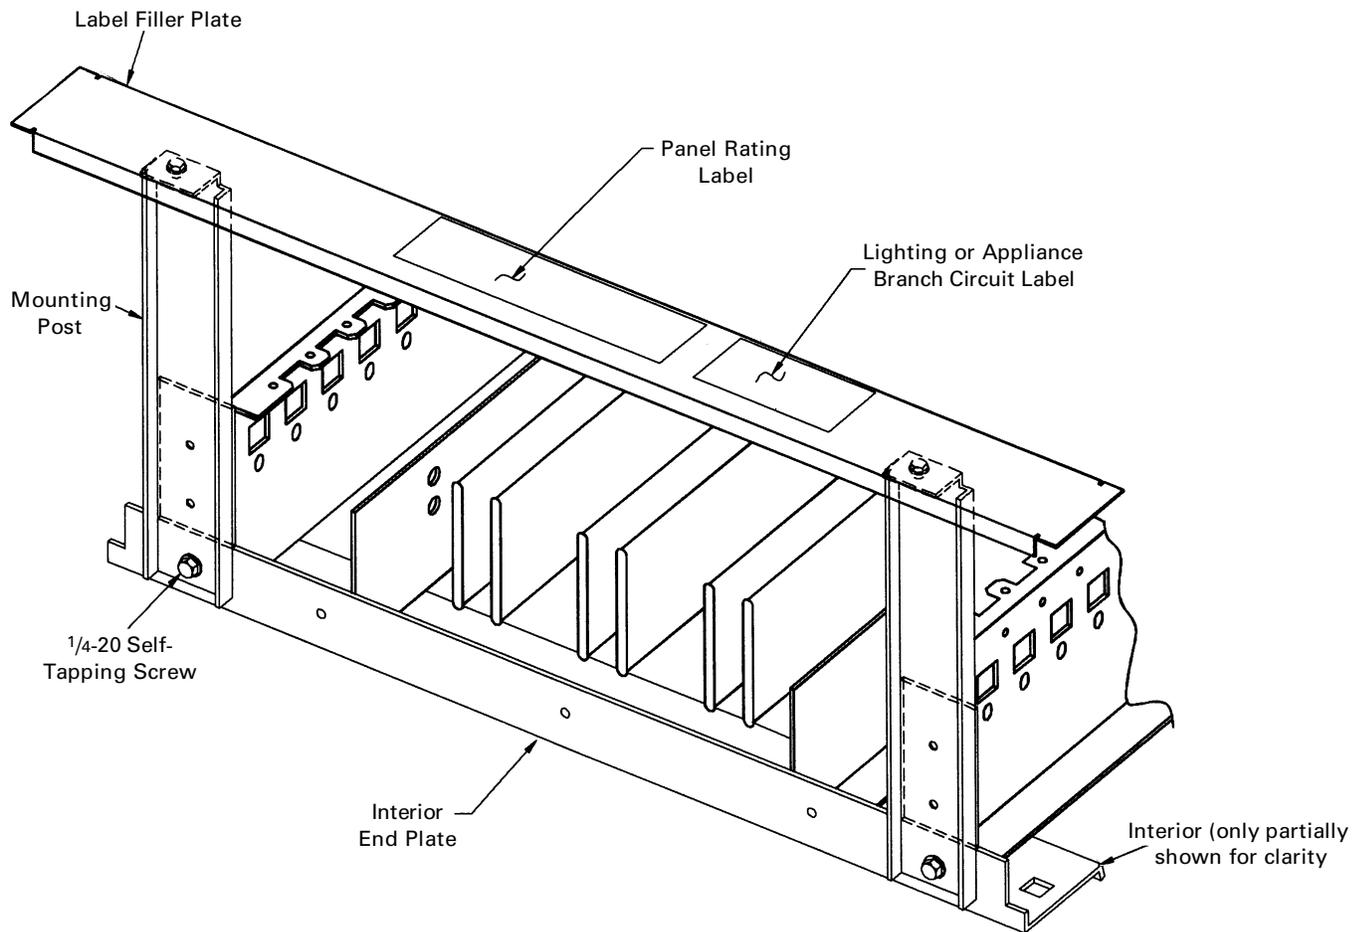

Figure 2. Installing label filler plates.
1. Attach the two mounting posts provided to the interior endplate at the LOAD end of the panel. Secure with the  $\frac{1}{4}$ -20 self-tapping screws provided and tighten to 55–60 in-lb. See Figure 2.
2. Attach the label filler plate to the mounting posts, oriented as shown in Figure 2. Secure with the  $\frac{1}{4}$ -20 self-tapping screws provided and tighten to 55–60 in-lb.